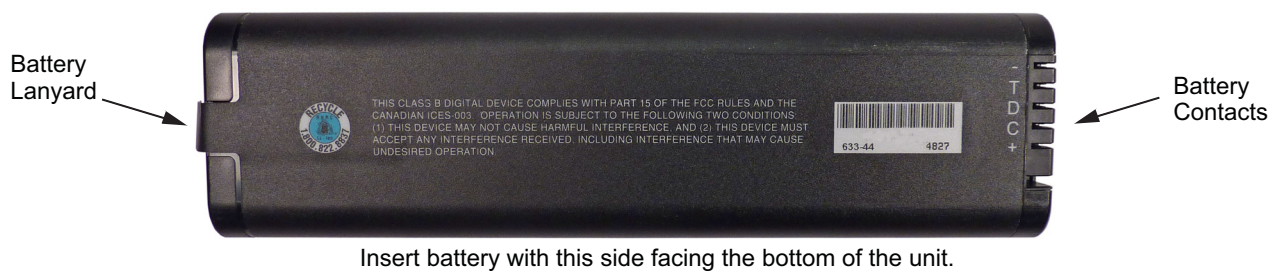

Figure 6-5. Battery Contacts and Orientation
5. Replacement is the opposite of removal. Note the orientation of the battery contacts, and be sure to insert the battery with the contacts facing the bottom of the unit, refer to Figure 6-5.